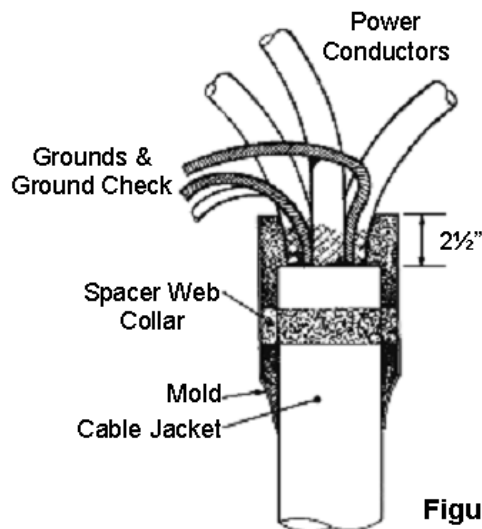

Figure 5
- 3.7. With cable straight, position mold over spacer web collar, extending 2½" (64 mm) beyond end of cable jacket. (Figure 5)
- 3.11 With cable end mounted vertically, arrange individual conductors and ground into final position. Allow a minimum clearance of ¼" (6 mm) from edge of mold body. (Figure 5)